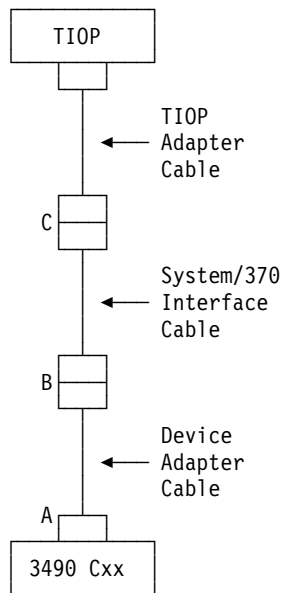

Figure 16. Tape Subsystem Cable Connections
28. The tape subsystem cables connect as shown in Figure 16.
- a. Disconnect the device adapter cable from the I/O device control unit (at **A** in Figure 16).
- b. Disconnect the System/370 interface cable from the device adapter cable (at **B** in Figure 16 on page 475).
- b. Disconnect the TIOP adapter cable from the System/370 interface cable (at **C** in Figure 16 on page 475).